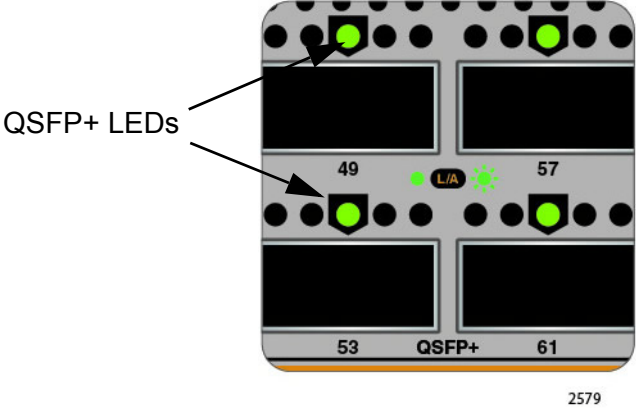

Figure 4. QSFP+ LEDs
- ❑ QSFP+ Slots - There are four QSFP+ slots which support communication speeds up to 40 GB. These slots are numbered 49, 53, 57 and 61. Each slot may be configured as one 40 GB port or 4 X 10GB ports in the management software. See Figure 4 on page 25 for the location of these LEDs and Table 3 on page 25 for their functional description. Refer to “Installing QSFP+ Transceivers and Cables” on page 75 for installation instructions.
Each QSFP+ port has one link/activity LED labeled LINK/ACT. These LEDs are shown in Figure 4.